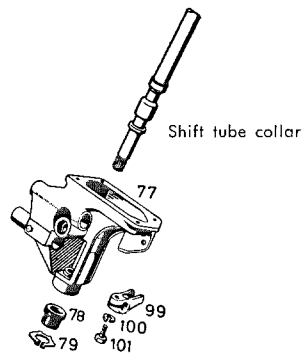

Fig. 26-2/2
Check the end play of the selector lever claw (99) between the shift tube collar and the shift tube (65). The maximum permissible end play is 0.4 mm (see Fig. 26-2/2). When reassembling the unit please remember that a spring washer (1) 12 N 55 a must be installed between the selector lever (4) and the bearing assembly. Before tightening the clamping screw in the selector lever (4) push the lever toward the bearing assembly, so that the selector lever shaft (5) is also installed with a certain amount of initial tension (Fig. 26-2/1).
The radial play of the shift tube (65) in the rubber mounting (78) of the bearing assembly (77) should not exceed 0.06 mm. Worn rubber mountings should be replaced by 2nd version mountings (smaller tolerances). When adjusting the steering wheel shift system make sure that when the 3rd or 4th gear is engaged, the distance between the shift tube collar and the rubber mounting is approx. 1-1.5 mm (Fig. 26-2/2).